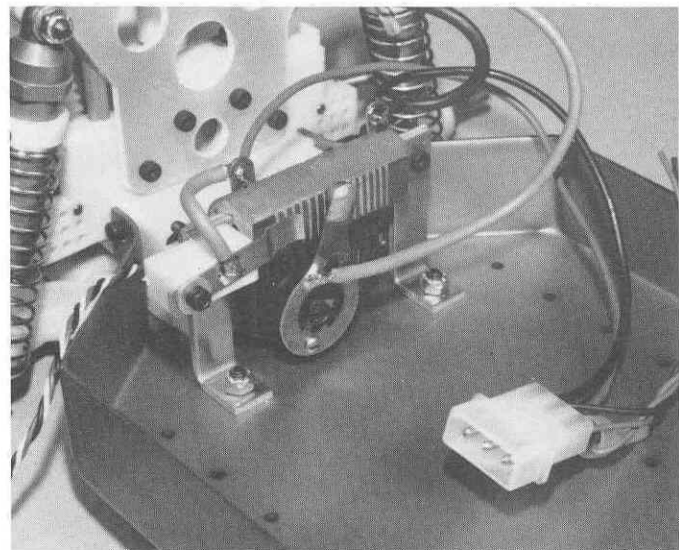

Fig. 174
□ **Fig. 174** Small (S32) servo installed.